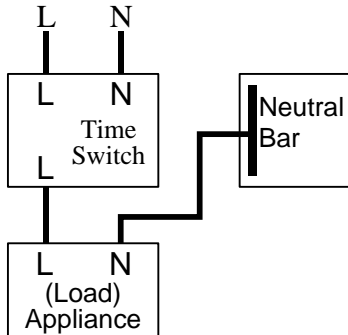
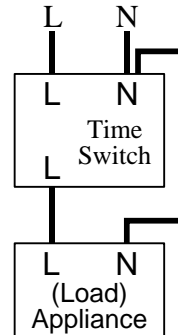

Figure 1: DB wiring
Figure 2: Stand alone wiring
- Wire the time switch according to **Figure 1** or **Figure 2**.